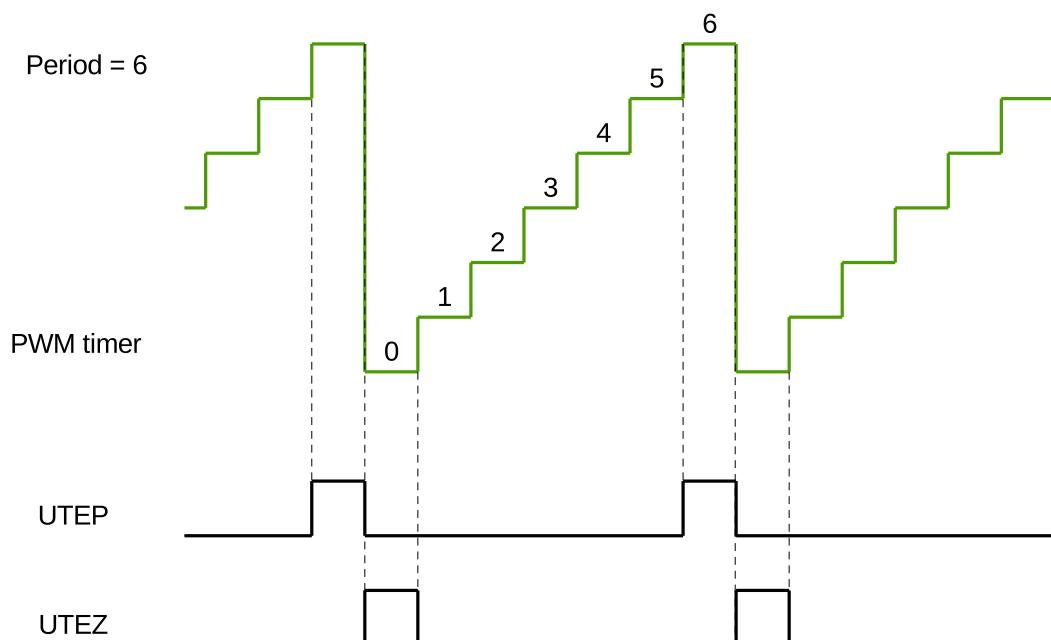

Figure 100: UTEP and UTEZ Generation in Count-Up Mode
Figures 100 to 102 show the timing waveforms of U/DTEP and U/DTEZ.
1. UTEP and UTEZ do not happen simultaneously. When the PWM timer is in count-up mode, UTEP will always happen one cycle earlier than UTEZ, as demonstrated in Figure 100, so their action on PWM signals will not interrupt each other. When the PWM timer is in count-up-down mode, UTEP will not occur.